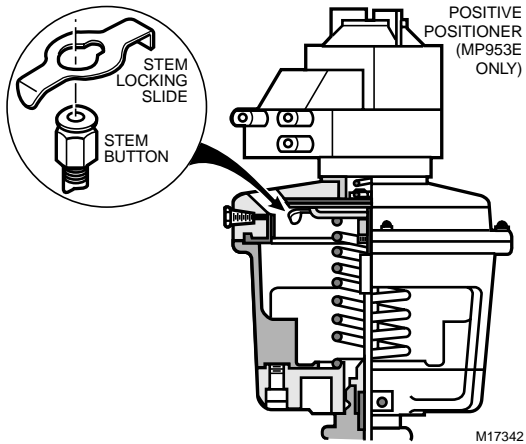

Fig. 5. MP953C,E Actuator Connected to Stem Button.
1. Loosen both setscrews at base of actuator (see Fig. 5).